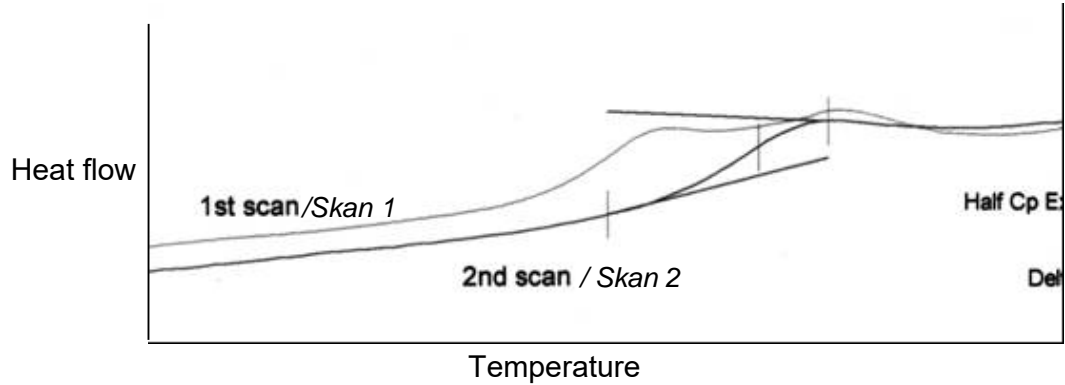

Figure 3: Glass transition temperature of ABS with two heating scans cycle of DSC runs.
- (b). In Differential Scanning Calorimetry (DSC) analysis, it is sometime necessary to conduct DSC heating scan twice as displayed in **Figure 3**.